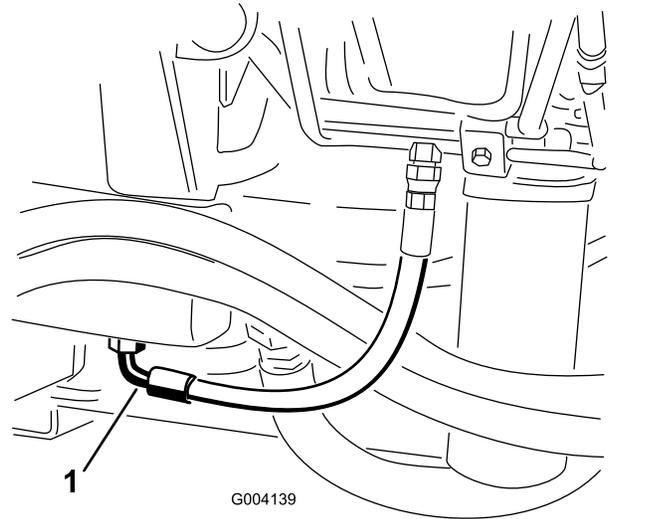

Figure 93
2. Place a large drain pan under the fitting secured to the bottom of the hydraulic-fluid reservoir (Figure 93).